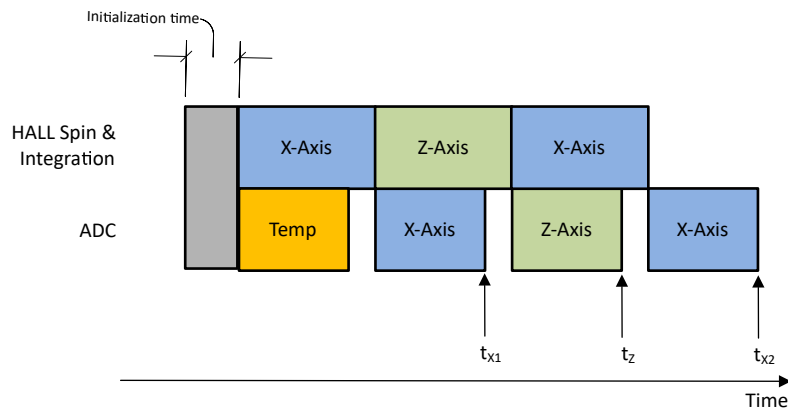

Figure 8-3. XZX Magnetic Field Conversion
In absolute angle measurement, application sensor data from multiple axes are required to calculate an accurate angle. The magnetic field data collected at different times through the same signal chain introduces error in angle calculation. The TMAG5170-Q1 offers pseudo-simultaneous sampling data collection modes to eliminate this error. Figure 8-3 shows an example where MAG\_CH\_EN is set at 1101b to collect XZX data. Equation 14 shows that the time stamps for the X and Z sensor data are the same.
- $t_{x1}$ ,  $t_z$ ,  $t_{x2}$  are time stamps for X, Z, X sensor data completion as defined in Figure 8-3.